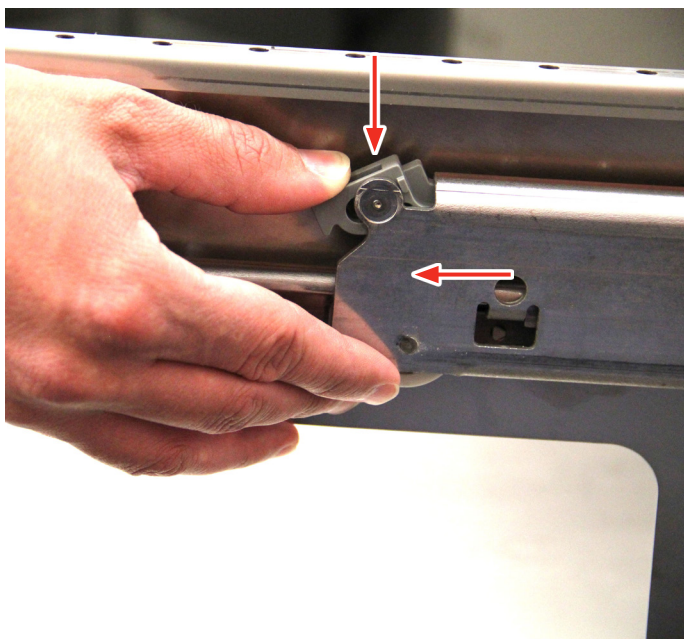

Fig. 30
3. Locate drawer lock on the front of each drawer slider. Push down and pull the drawer locks toward front of the drawers until they pivot upward (Fig. 30).